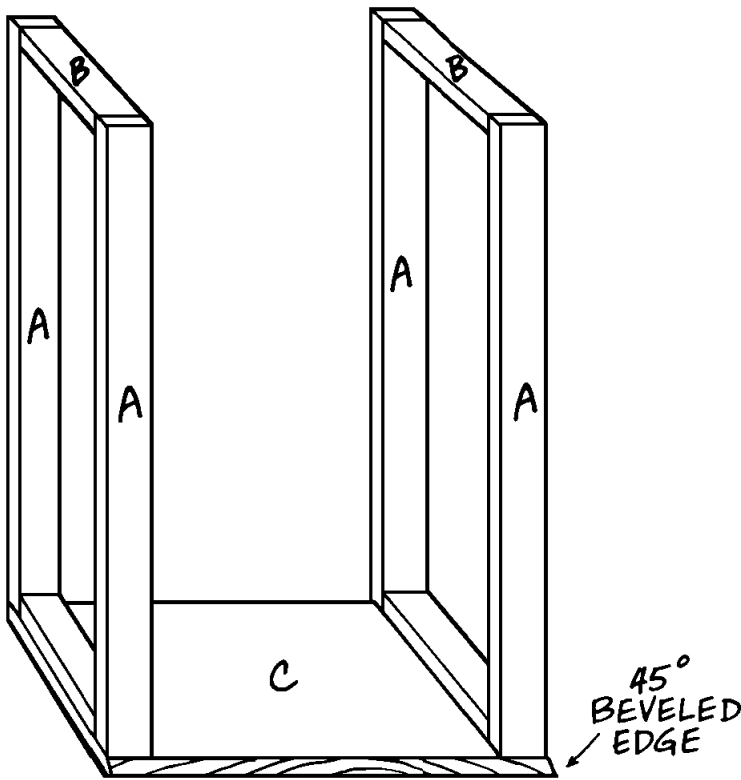

Figure 3
3. Glue one side (C) to the two inner support assemblies, as shown in *Figure 3*. Note that the two assemblies fit flush with the 15-1/2"-long, non-beveled edge of the side (C) and that the beveled portion of the side (C) extends past the assemblies. Secure with 2" screws inserted through the side (C) and into each of the assemblies spacing the screws about 4" apart.
4. Repeat Step 3 to attach the remaining side (C) to the opposite side of the inner support assemblies.
5. Cut one 10-1/2" x 36" back (D) at a 45-degree angle, in the same manner that you did on one edge of each side (C).